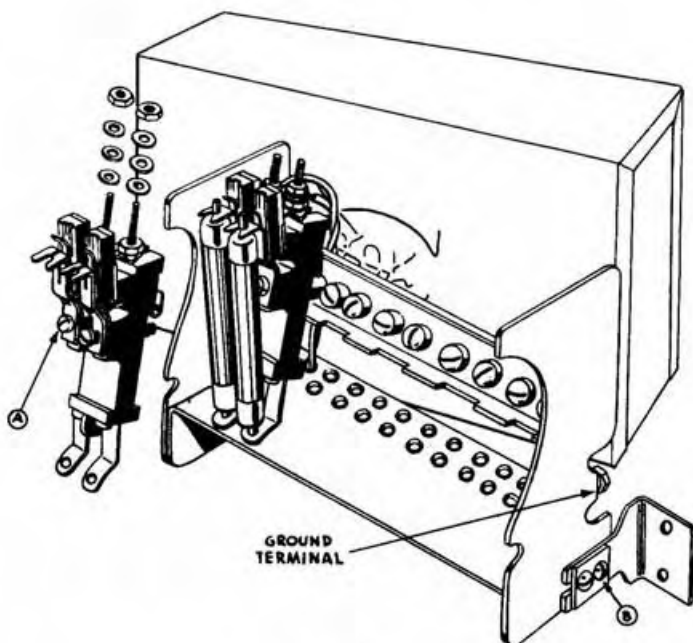

Fig. 6
Install Type H Protector Mount on frame with 2 screws (A). Fig. 6.
Remove rear mounting screw (B) on each side of protector frame. Fig. 6.
Terminate station wires. Fig. 6.